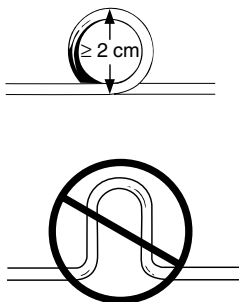

Figure 3. Coiling excess lead.
- Coil the excess lead body into a circular loop greater than 2 cm (0.8 in) in diameter. Do not use a U-shaped loop or bend (Figure 3). A circular loop decreases the possibility of electromagnetic interference and its effects and prevents kinking or damaging the lead body.